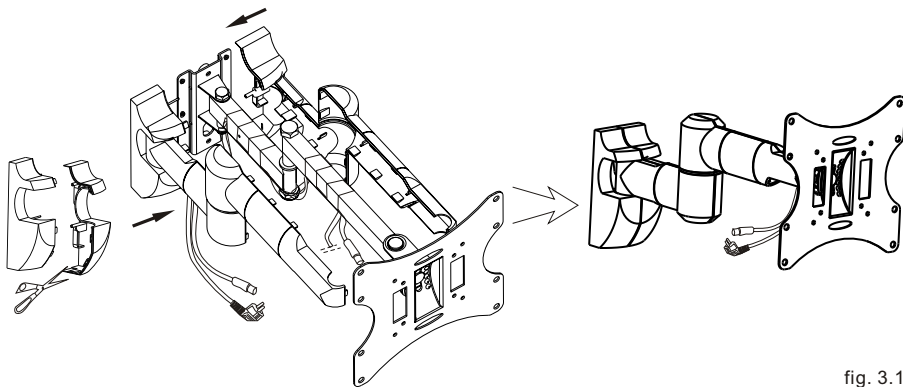

fig. 3.1
- Snap the decorative covers from left and right to cover the wall plate rails and the bracket arm as shown in fig. 3.1.